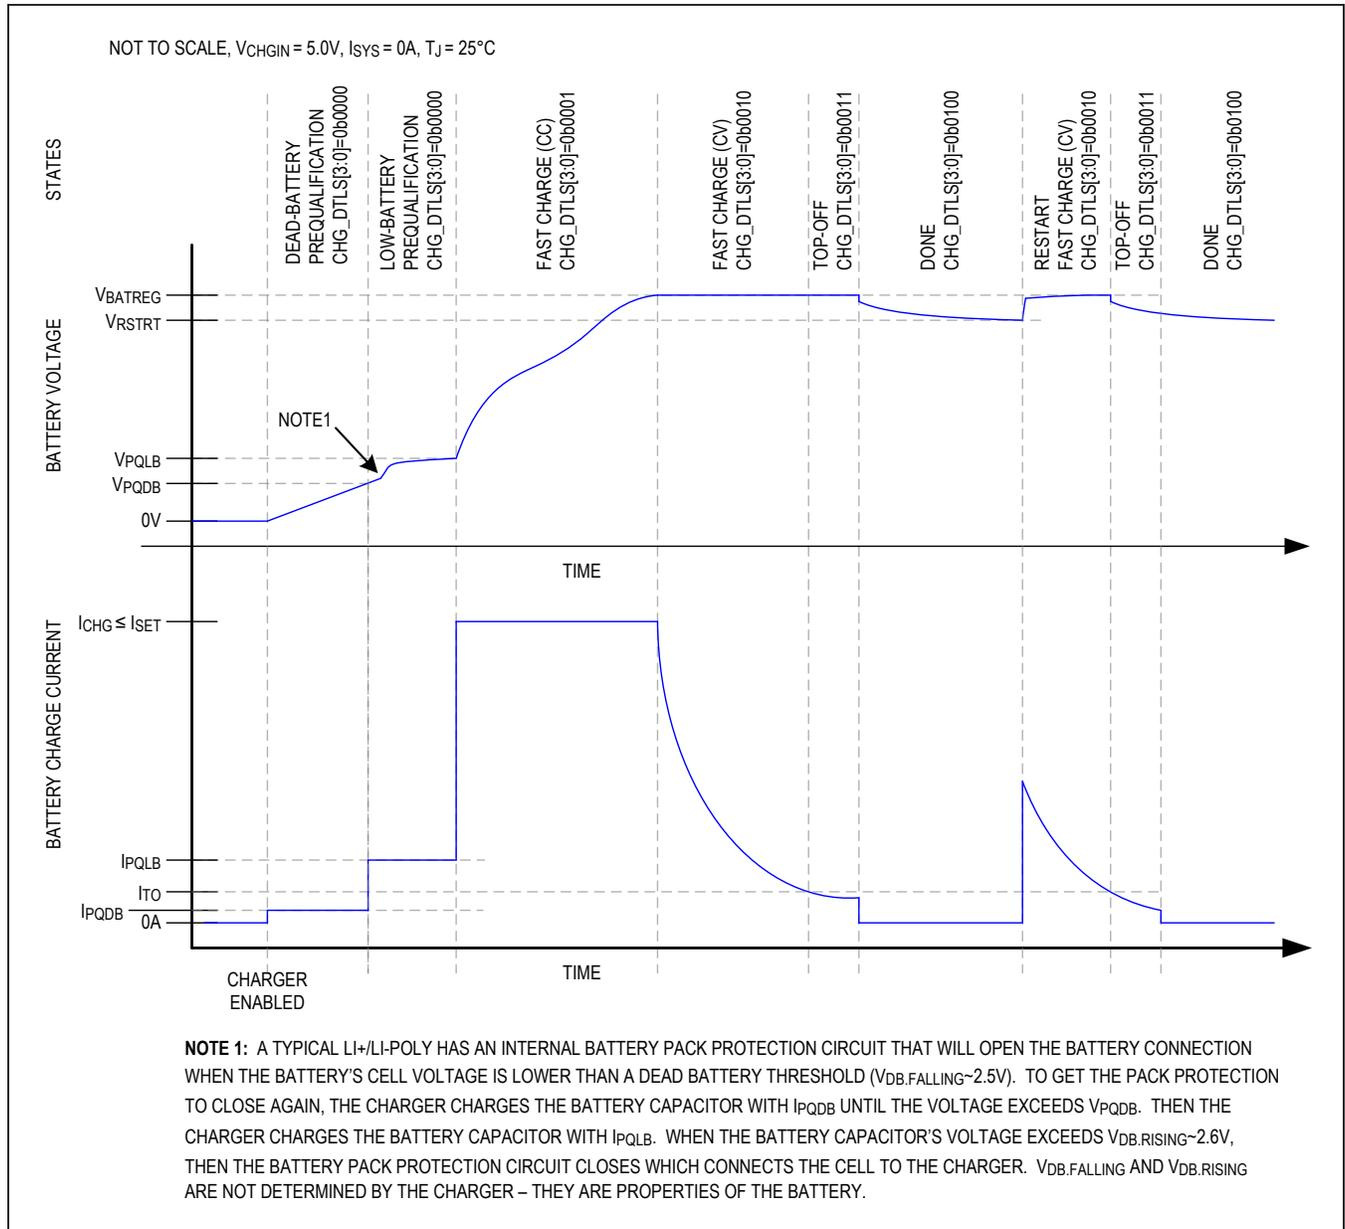
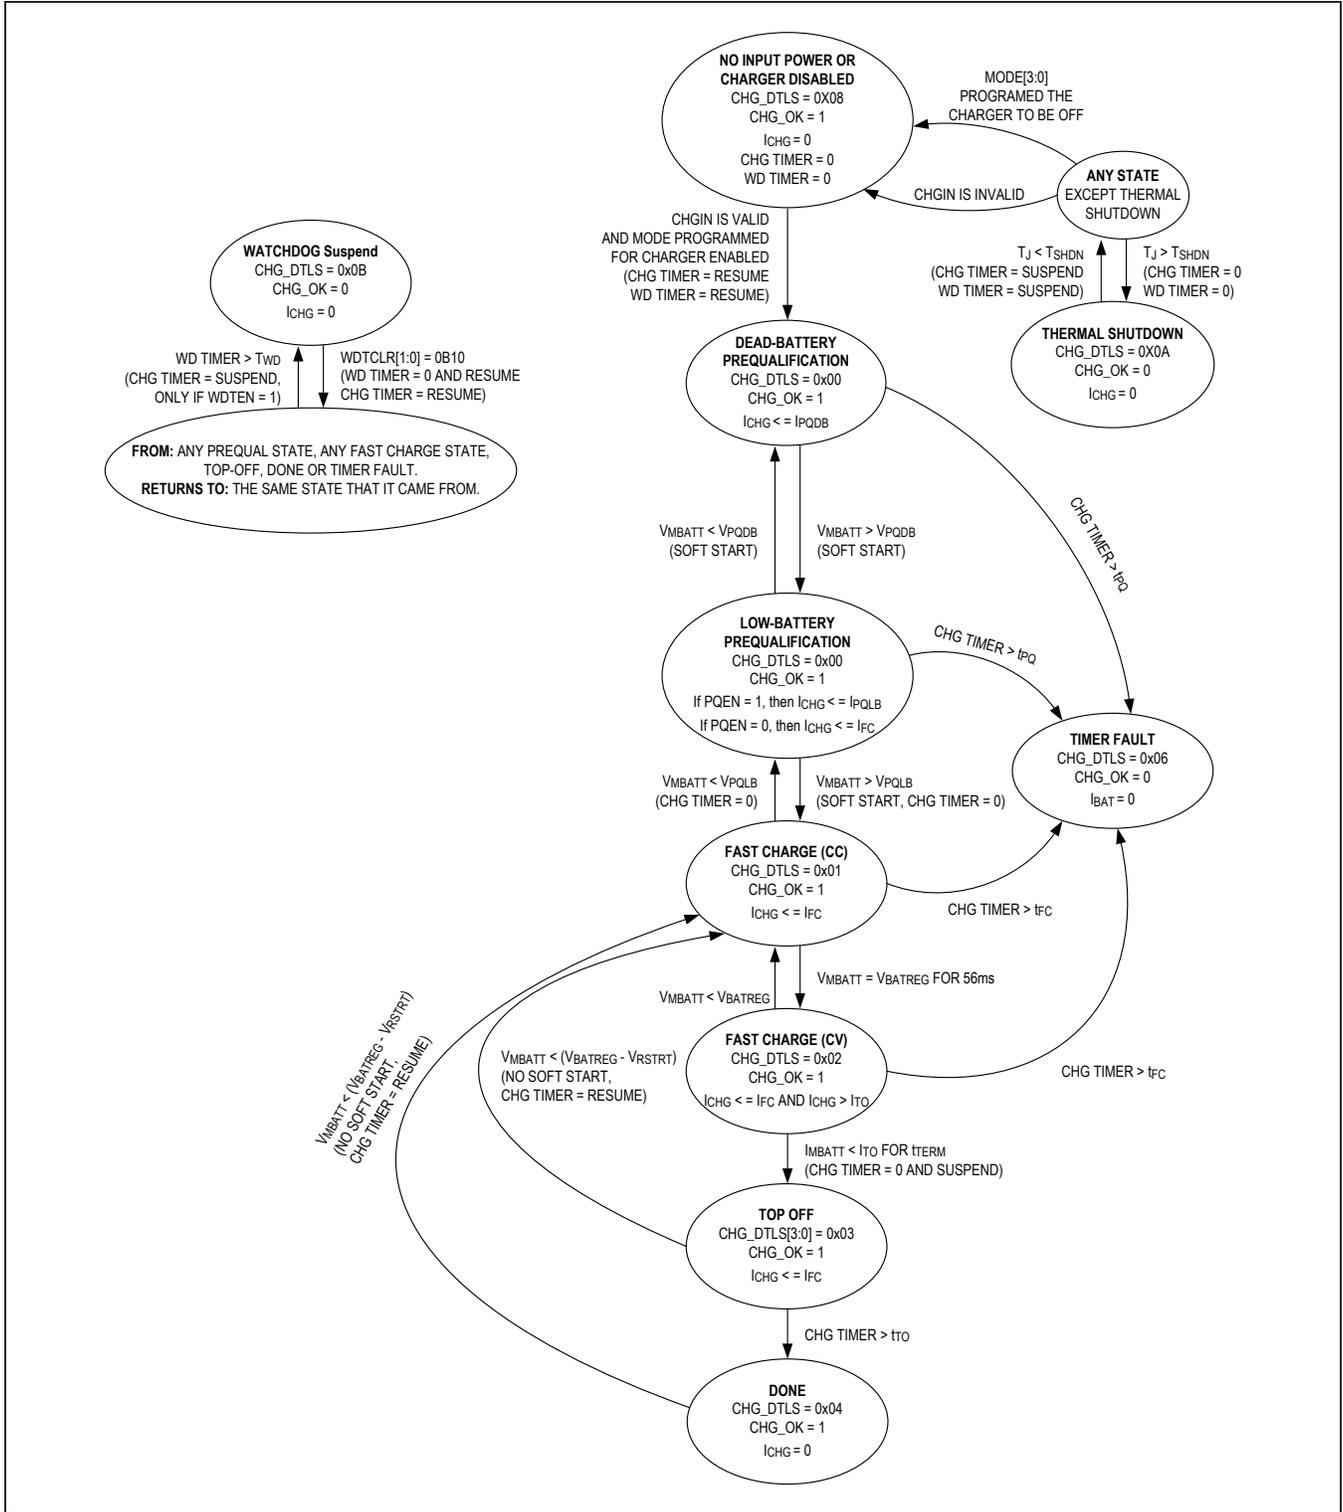

Figure 6. Li+/Li-Poly Charge Profile
Figure 7. Charger State Diagram
The MAX77818 utilizes several charging states to safely and quickly charge batteries as shown in Figure 6 and Figure 7. Figure 6 shows an exaggerated view of a Li+/Li-Poly battery progressing through the following charge states when there is not system load and the die and battery are close to room temperature: prequalification → fast-charge → top-off → done.
From any state shown in Figure 7 except thermal shutdown, the no input power or charger disabled state is entered whenever the charger is programmed to be off or the charger input CHGIN is invalid. After being in this state for  $t_{SCIDG}$ , a CHG\_I interrupt is generated, CHG\_OK is set and CHG\_DTLS is set to 0x08.
As shown in Figure 7, the dead battery prequalification state occurs when the main battery voltage is less than  $V_{PQDB}$ . After being in this state for  $t_{SCIDG}$ , a CHG\_I interrupt is generated, CHG\_OK is set and CHG\_DTLS is set to 0x00. In the dead battery prequalification state charge current into the battery is  $I_{PQDB}$ .
As shown in Figure 7, the fast-charge constant current (CC) state occurs when the main battery voltage is greater than the low battery prequalification threshold and less than the battery regulation threshold ( $V_{PQLB} < V_{BATT} < V_{BATREG}$ ). After being in the fast-charge CC state for  $t_{SCIDG}$ , a CHG\_I interrupt is generated, CHG\_OK is set and CHG\_DTLS = 0x01.
As shown in Figure 7, the fast-charge constant voltage (CV) state occurs when the battery voltage rises to  $V_{BATREG}$  from the fast-charge CC state. After being in the fast-charge CV state for  $t_{SCIDG}$ , a CHG\_I interrupt is generated, CHG\_OK is set and CHG\_DTLS = 0x02.
In the fast-charge CV state the battery charger maintains  $V_{BATREG}$  across the battery and the charge current is less than or equal to  $I_{FC}$ . As shown in Figure 6, charger current decreases exponentially in this state as the battery becomes fully charged.
As shown in Figure 7, the top-off state can only be entered from the fast-charge CV state when the charger current decreases below  $I_{TO}$  for  $t_{TERM}$ . After being in the top-off state for  $t_{SCIDG}$ , a  $CHG\_I$  interrupt is generated,  $CHG\_OK$  is set and  $CHG\_DTLS = 0x03$ . In the top-off state the battery charger tries to maintain  $V_{BATREG}$  across the battery and typically the charge current is less than or equal to  $I_{TO}$ .
As shown in Figure 7, the battery charger enters its done state after the charger has been in the top-off state for  $t_{TO}$ . After being in this state for  $t_{SCIDG}$ , a  $CHG\_I$  interrupt is generated,  $CHG\_OK$  is cleared and  $CHG\_DTLS = 0x04$ .
The battery charger provides both a charge timer and a watchdog timer to ensure safe charging. As shown in Figure 7, the charge timer prevents the battery from charging indefinitely. The time that the charger is allowed to remain in its each of its prequalification states is  $t_{PQ}$ . The time that the charger is allowed to remain in the fast-charge CC and CV states is  $t_{FC}$  which is programmable with  $FCHGTIME$ . Finally, the time that the charger is in the top-off state is  $t_{TO}$ , which is programmable with  $TO\_TIME$ . Upon entering the timer fault state a  $CHG\_I$  interrupt is generated without a delay,  $CHG\_OK$  is cleared and  $CHG\_DTLS = 0x06$ .
In the timer fault state the charger is off. The charger can exit the timer fault state by programming the charger to be off and then programming it to be on again through the  $MODE$  bits. Alternatively, the charger input can be removed and reinserted to exit the timer fault state. See the any state bubble in the upper right of Figure 7.
The battery charger provides both a charge timer and a watchdog timer to ensure safe charging. As shown in Figure 7, the watchdog timer protects the battery from charging indefinitely in the event that the host hangs or otherwise cannot communicate correctly. The watchdog timer is disabled by default with  $WDTEN = 0$ . To use
As shown in Figure 7, the thermal shutdown state occurs when the battery charger is in any state and the junction temperature ( $T_J$ ) exceeds the device's thermal shutdown threshold ( $T_{SHDN}$ ). When  $T_J$  is close to  $T_{SHDN}$ , the charger has folded back the input current limit to 0A so the charger and inputs are effectively off. Upon entering this state, CHG\_I interrupt is generated without a delay, CHG\_OK is cleared, and CHG\_DTLS = 0x0A.